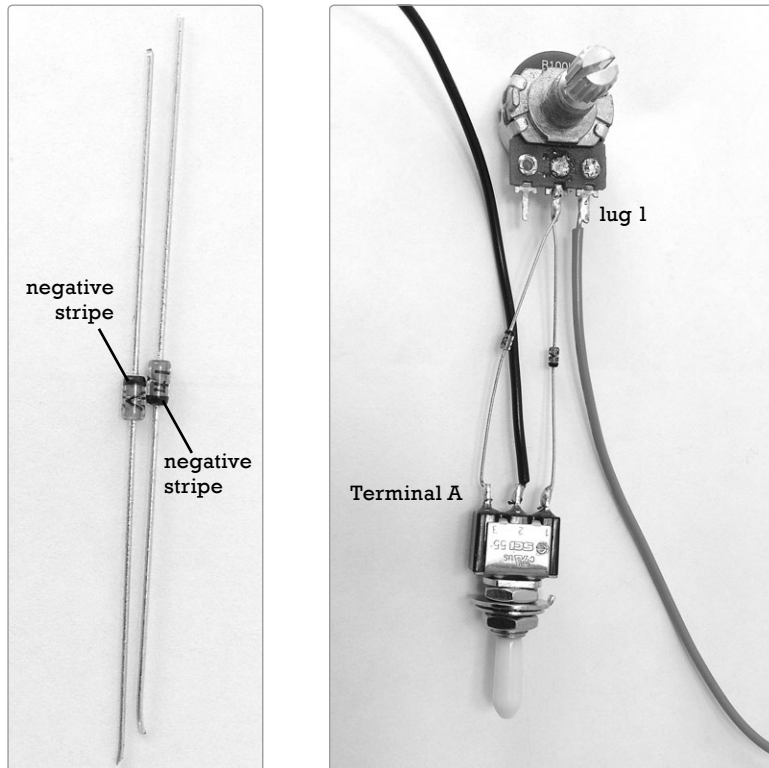

FIGURE 16-9: *The completed click-gate control assembly*
Step 8 Find the black stripe on each diode, as shown in Figure 16-9 (left). The negative diode leg is the one closest to that stripe. Keeping this in mind, solder the positive leg of one diode to Terminal A on your on-off-on SPDT switch. Solder the negative leg of the other diode to the remaining switch terminal. Twist together the free legs on the two diodes and solder them to the middle lug of the 100k ohm pot.